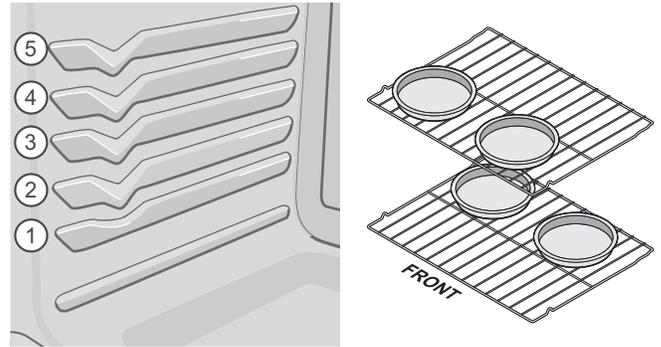

Figure 8: Convection rack positions and pan spacing
2. When using Convection Bake with a single rack, place oven rack in position 2 or 3. (Figure 8) If cooking on multiple racks, place the oven racks in positions 1 and 3.